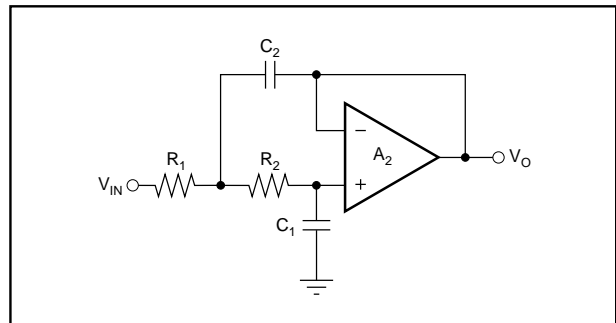

FIGURE 8. Unity-Gain Sallen-Key Complex Pole-Pair Section. (Gain = 1)
- Sallen-Key—shown in Figures 8 and 9.
Figure 8 circuit, $K = 1.0$